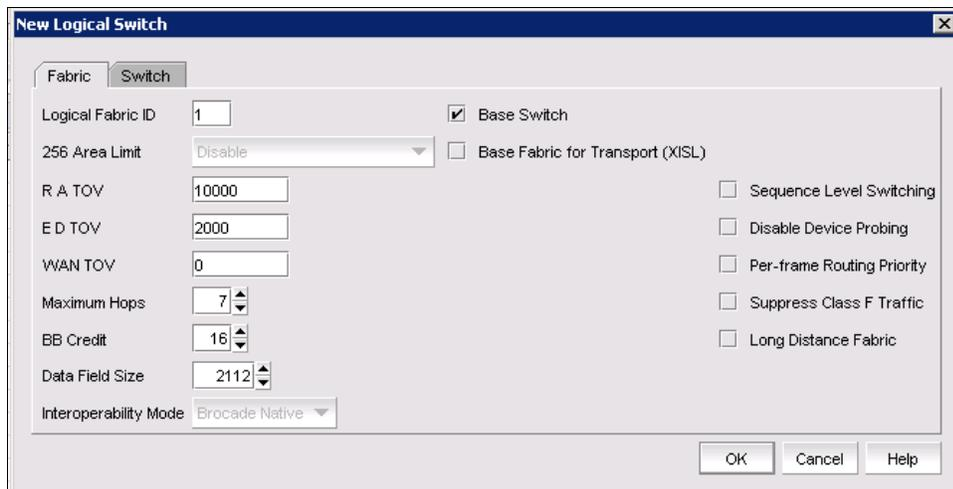

Figure 6-5 Create the base logical switch
5. The New Logical Switch window is displayed (Figure 6-5). Enter a logical fabric ID in the **Logic Fabric ID** field. Here we assign fabric ID 1 for the first logical switch, which is the base switch for the XISL connection.